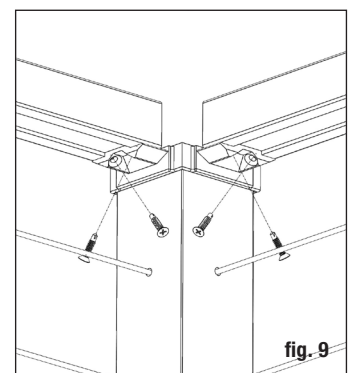

fig. 9
Step 10 Position the rail between the posts. Check for level end-to-end and vertically. Attach brackets to the post at one end. Pre-drill rail using a 7/64" drill bit. Repeat for the other end. *Tip: Use a driver extension bit to avoid marring the rail with the drill chuck. Install all rails prior to installing cable.* (fig. 9)